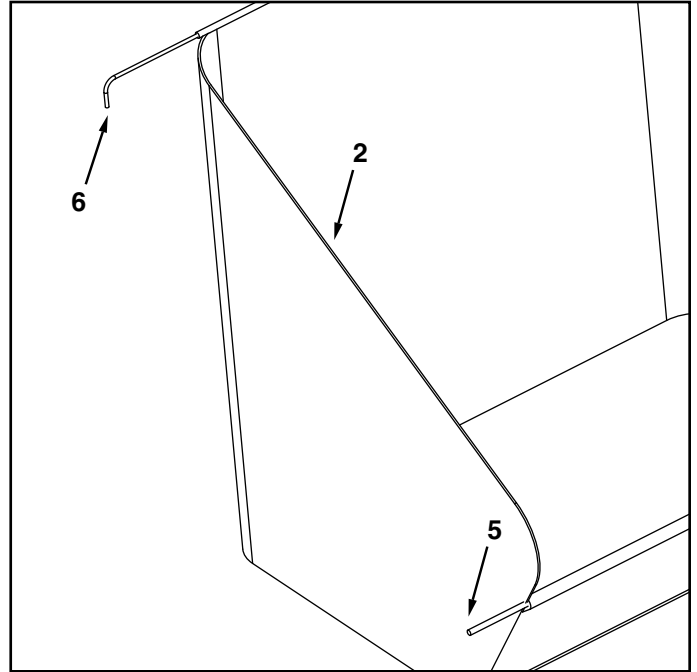

FIGURE 5
- Slide the bent bag rod (6) through the stitched bag flap on the top of the hopper bag (2) as shown in figure 5.
- Slide the lower bag rod (5) through the stitched bag flap on the bottom of the hopper bag as shown in figure 5.